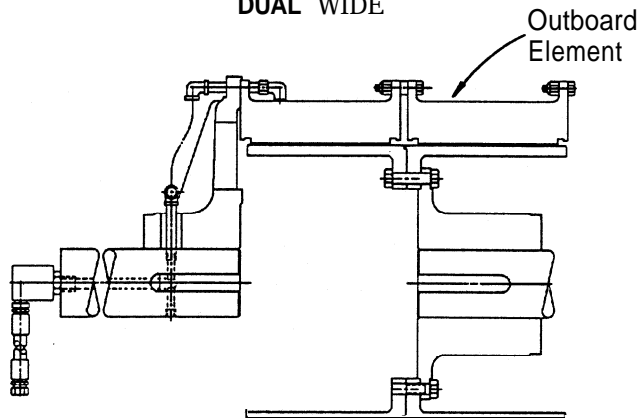

Fig. 3
- 2.1.1 Figure 3 illustrates the gap-mounting arrangement. In this arrangement, the element is attached to a spider which is typically mounted on the driving shaft. The drum is attached to a drum hub which is typically mounted on the driven shaft. The gap between the two shafts allows the element and drum to be removed without disturbing either shaft.